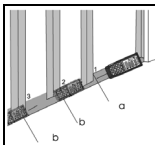

Fig. 13: Distance measurement with thresholds
6. Slowly move the instrument along the radial line, observing the measured value (see Fig. 13). The instrument shows the arrows  or  to indicate the direction in which to proceed and starts sounding at a distance of 0,1m from the thresholds (a) and (b) fixed, giving out a continuous sound when threshold is reached. Measurement has a duration of approx. 1 minute and may be stopped by pressing the  or  key